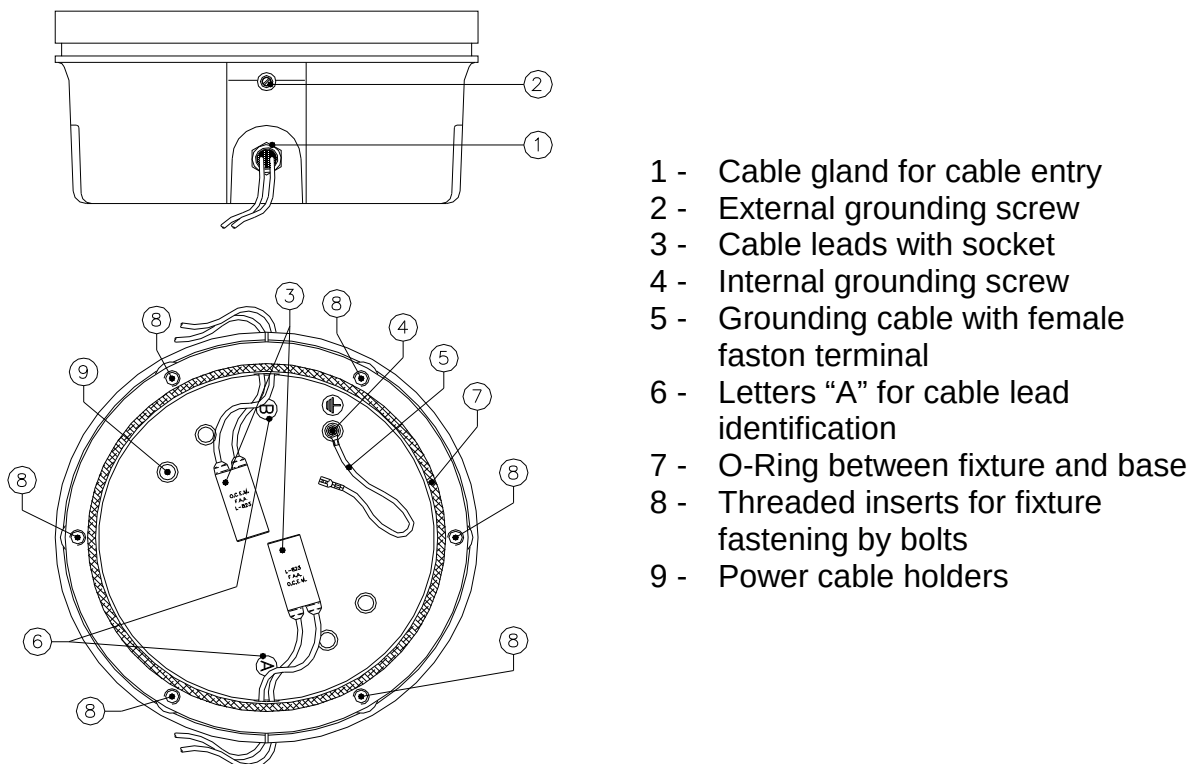

Figure 11 – Standard 12" shallow base (mounting system "B")
The **shallow base** (mounting system B) (fig.11) consists of a treated aluminium casting containing an electrical feed-thru system to connect the power cables, consisting of one or two cable leads with receptacle incoming inside the base through one or two cable glands. The cable lead with receptacle consists of two single-pole leads, size 2.5 mm², 1.00 m long, with FAA L-823 receptacle.
An O-Ring (separately supplied) must be placed between base and fixture for watertightness (fig.11 - n°7) placed in the relevant shallow base groove.
Inside the base two suitable holders (fig.11 - n°9) are provided to properly sustain the secondary power cable, in case of this cable is inside incoming through a conduit.
- b) all the fixture gaskets: O-Rings between dome and lower cover (fig.1 – n°20); O-Ring around the dome (fig.1 – n°19); prism gasket (fig.1 - n°4); O-Ring between fixture and shallow base (fig.11 – n°7); check the integrity and replace them, if necessary, as described at paragraph 4.5;